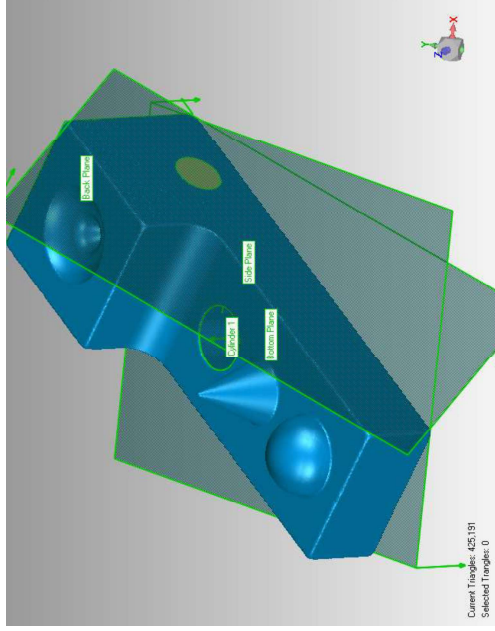

Figure 74
- Select **Fit Model to View** on the **Right-Side Toolbar** or press **CTRL+D**, rotate model to the view shown in **Figure 74**.